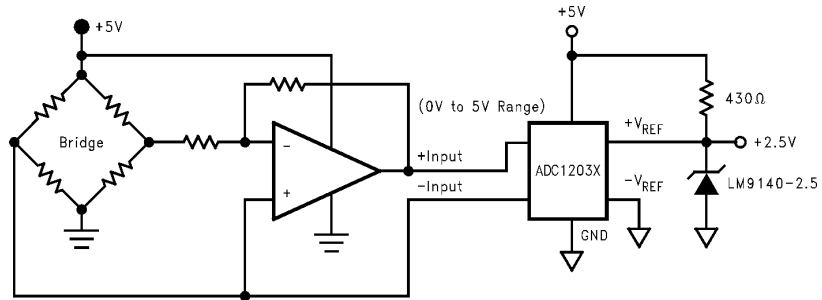

Figure 37. DC Coupled ADC Driver
The LMV2011 is a great choice for an amplifier stage immediately before the input of an ADC (Analog-to-Digital Converter), whether AC or DC coupled. See Figure 36 and Figure 37. This is because of the following important characteristics:
- E)** Rail-to-Rail output swing maximizes the ADC dynamic range in 5-Volt single-supply converter applications. Below are some typical block diagrams showing the LMV2011 used as an ADC amplifier (Figure 36 and Figure 37).